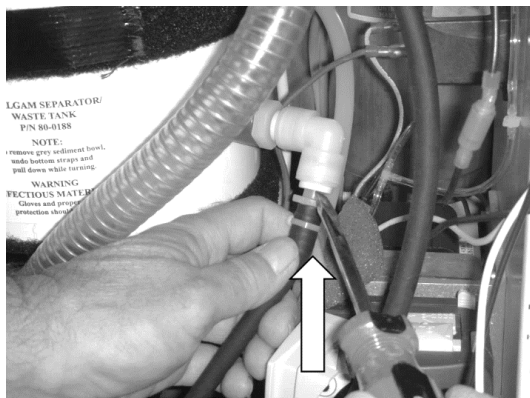

Fig. 5
Step 5 - Insert the head of a flat head screwdriver between the white plastic adapter and the white plastic connector on the tubing. Depress white ring while pulling down on the tubing. (Fig. 5)